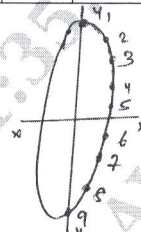

Fig. Q9
- 9 At a section of a fuselage the bending moment due to self weight was 9.8 kNm and due to symmetrical pull out tail load is 45.1 kNm down. The tail load may be assumed to be acting at 2 m away from the section. If the stringers are 16 in number and placed as shown, with areas of stringers placed symmetrical about YY axis, calculate the stresses in stringers. (Refer Fig. Q9) (16 Marks)